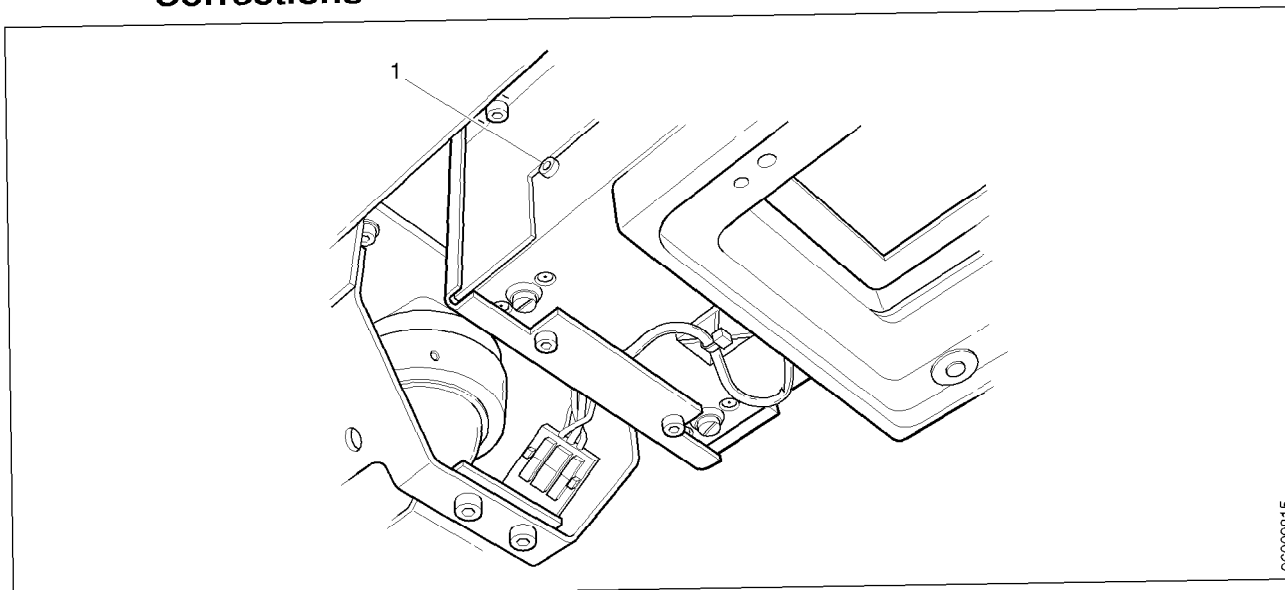

Fig. 3
- The light field may be adjusted by loosening the screws as shown in (1/ Fig. 3) or (10/ Fig. 3 in chapter 1) and by shifting the light source.